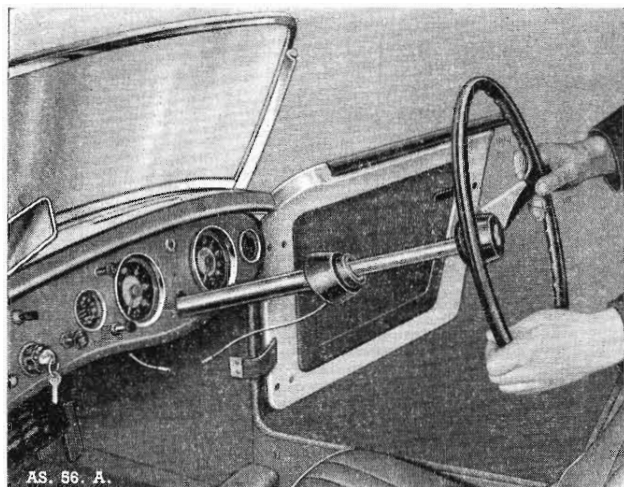

Fig. J.3. Showing the removal of the steering column.
- (1) Remove the connector from the negative battery terminal.
- (2) Unscrew and remove the clamp nut bolt from the splined lower end of the steering column.
- (3) Disconnect the horn wire (brown with black) at its snap connection beneath the fascia.
- (4) Remove the steering column surround, situated between the fascia panel and the steering wheel, after unscrewing its three securing setscrews located behind the fascia.
- (5) Slacken the two bolts securing the column bracket beneath the fascia panel.
- (6) As illustrated in Fig. J.3, the steering column complete may now be withdrawn rearwards from the fascia panel.